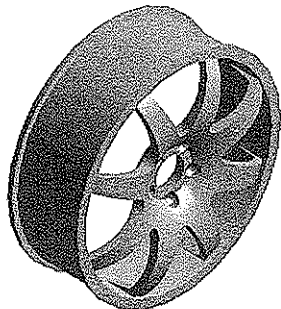

Figure 5-31 Model after creating the revolved feature for the rim
- 11. Choose the **Generate** tool from the **Features** toolbar; the revolved feature is created by revolving the sketch about the X axis by 360 degrees, refer to Figure 5-31.